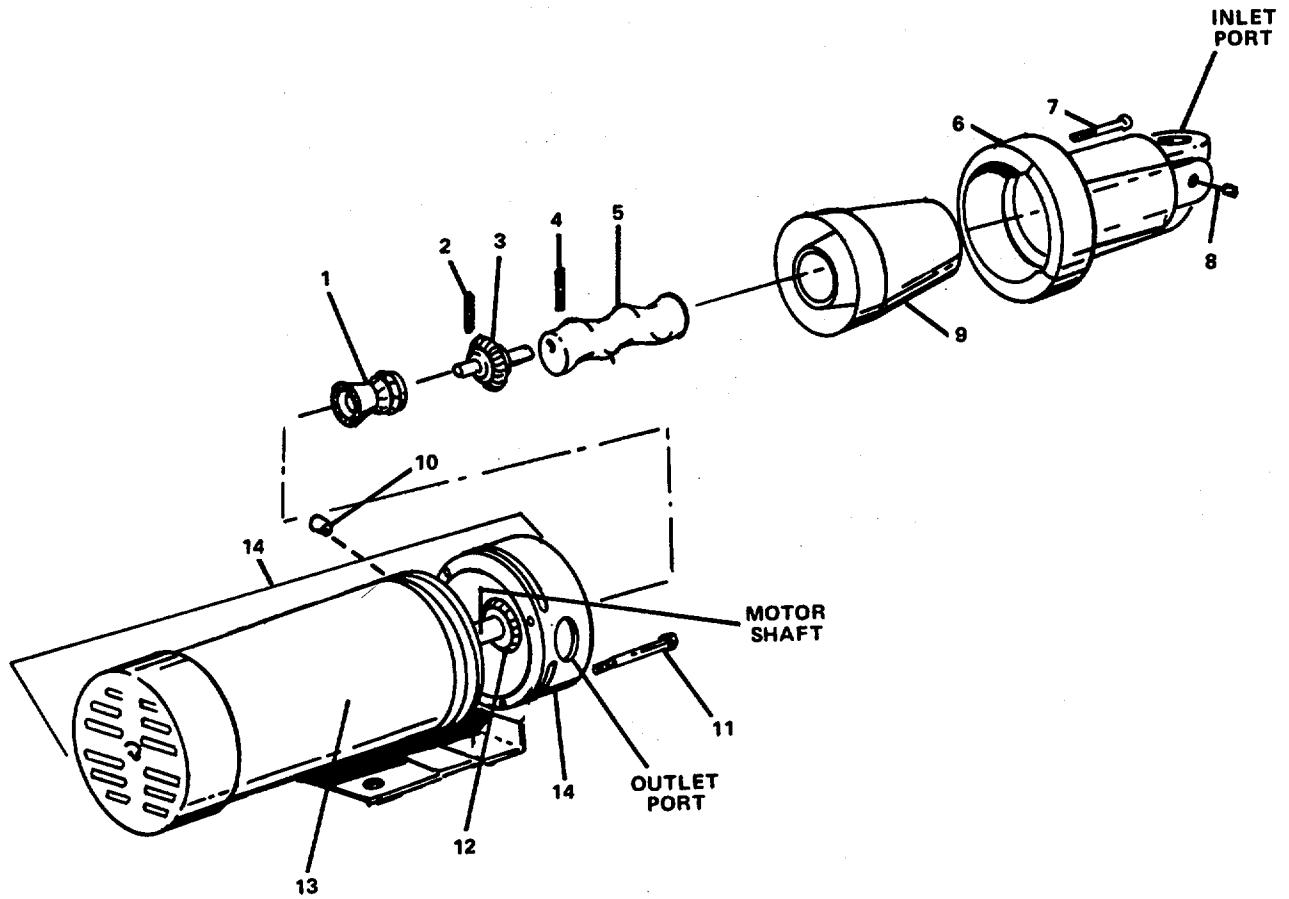

FIGURE 3-18. Motorized Water Pump.
- (1) Position motorized pump (14, Figure 3-18) on a clean, flat surface.
- (2) Remove six machine screws (7) securing housing (6) to motorized pump.
- (3) Separate and remove housing (6) from pump.
- (4) Remove pipe plug (8) from housing.
- (5) Slide stator (9) off of rotor (5).
- (6) Separate rotor (5) from universal joint (3) by using a punch to remove pin (4) Support rotor when removing pin. Retain pin for assembly.
- (7) Separate universal joint (3) from motor shaft by using a punch through outlet port on pump body to remove pin (2). Retain pin for assembly.
- (8) Slide universal joint off of motor shaft and out of motorized pump (14).